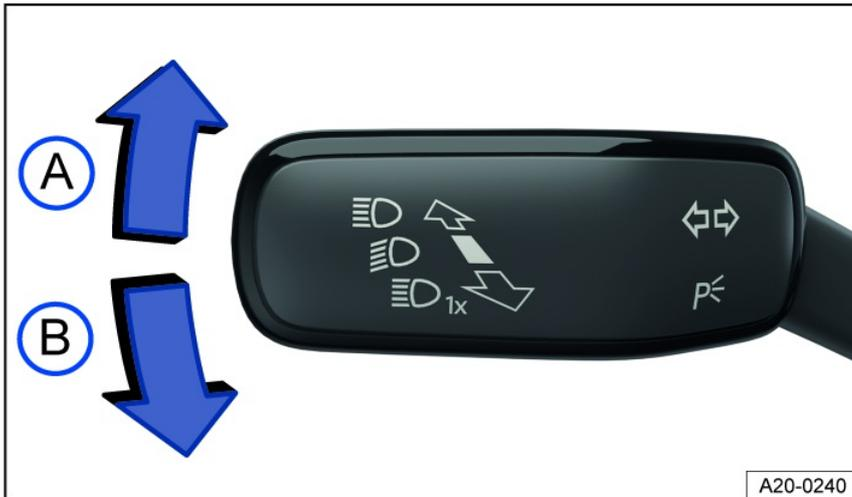

Fig. 94 On the left side of the steering column: turn signal and high beam lever.
2. Move the turn signal and high beam lever from the center position to the preferred position fig. 94.